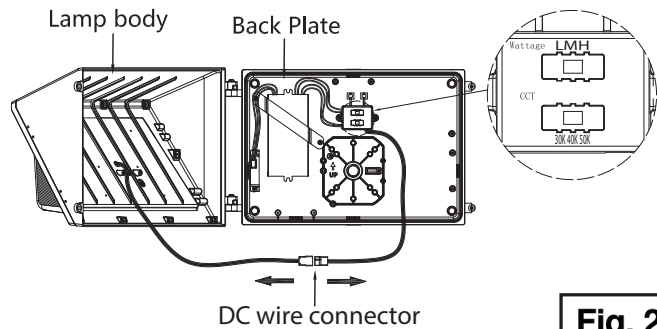

Fig. 2
2. Disconnect the DC wire connector and separate the lamp body from the back plate. Adjust the wattage and CCT switches attached to the back plate to the desired power and CCT settings. (See Fig. 2)